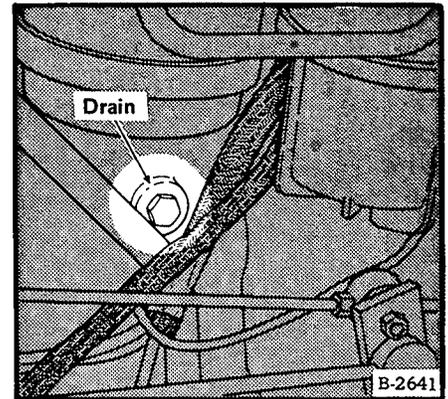
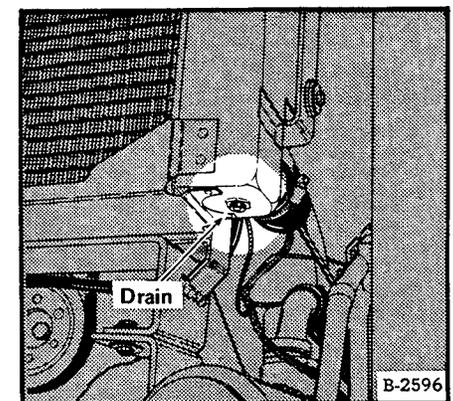

Fig. 1-19 Engine Coolant Drain (974)
Fig. 1-21 Radiator Coolant Drain
- (1) Open drains on engine block (Fig. 1-19 & 1-20) and on the radiator (Fig. 1-21) to let the coolant out.